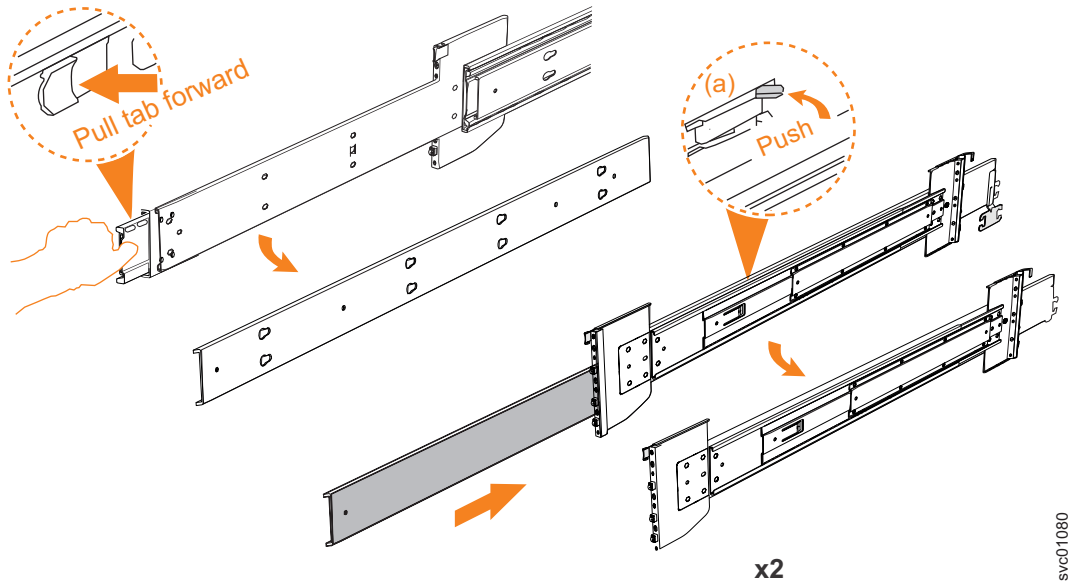

Figure 33. Detaching the inner rail section
3. Remove the inner member of the rail. Push the tab (**a**) and slide the middle rail member back, as shown in Figure 33 on page 52.